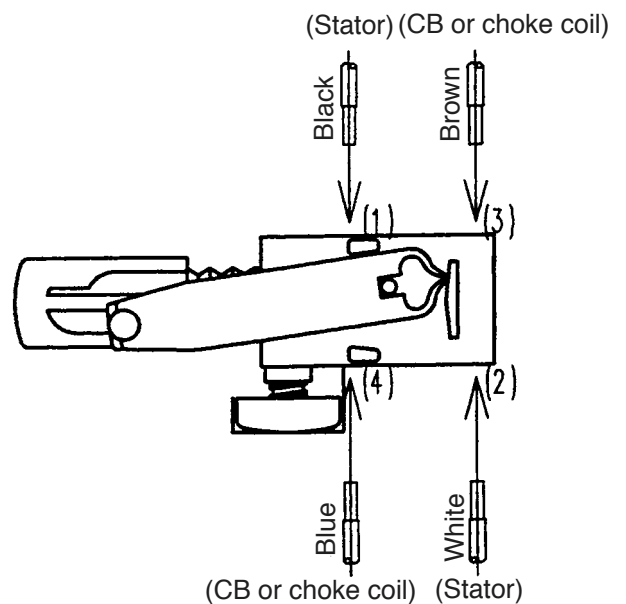

Fig. 28
(1) Wiring of reversing switch
Insert the lead wire (black) coming from the stator into the terminal (1) of the reversing switch, and the lead wire (white) into the terminal (2) as shown in Fig. 28.